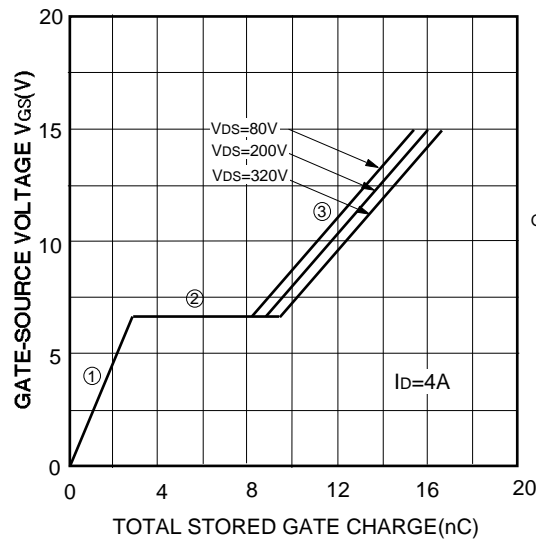

Fig.41 The relation between applied gate-source voltage and stored gate charge
Fig.41 shows the relation between the applied gate voltage and the stored gate charge. In the region ①, the charge is mainly stored at Cgs as the depletion is spread and CGD is small owing to the off-state of MOS-FIT and the high drain voltage. In the region ②, the CGD is multiplied by the "mirror effect" as the characteristics of MOS-FIT transfers from off-state to on-state. In the region ③, both the CGD and Cgs affect to the characteristics as the MOS-FIT is on-state and the drain voltage is low.